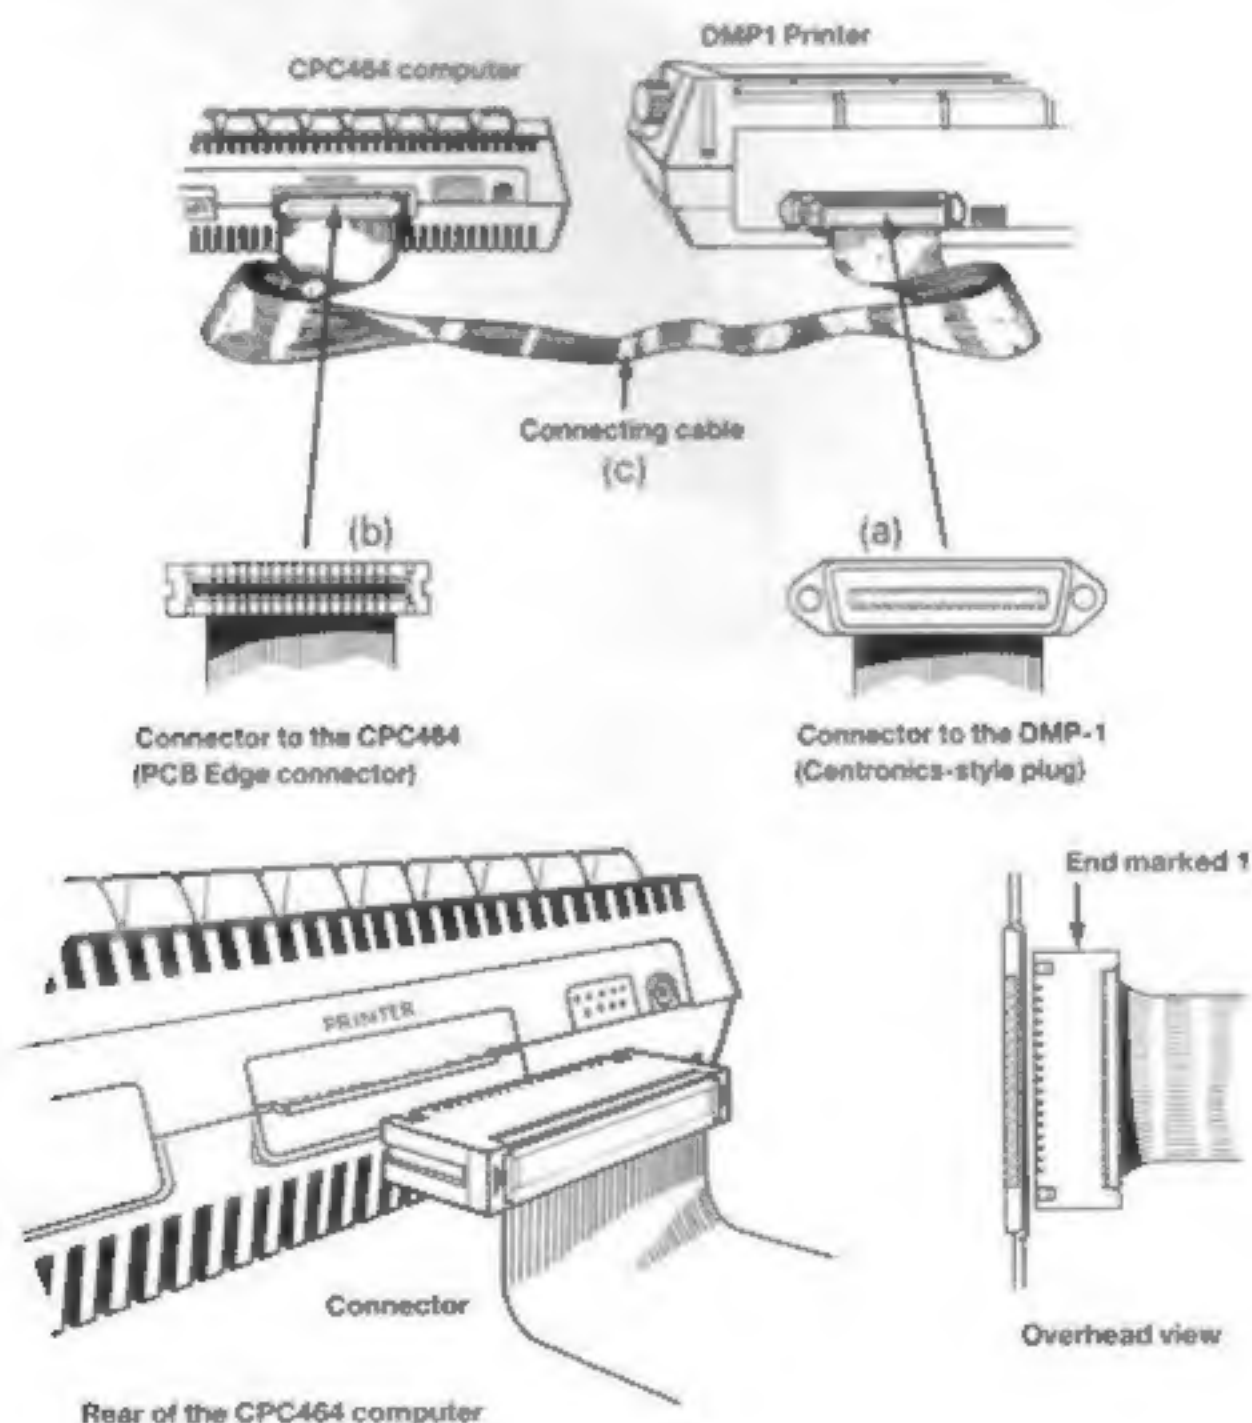

Figure 6
3. The DMP1 is supplied complete with a cable (Figure 6c) that allows direct connection to the PRINTER connector at the rear of the CPC464. Figure 6 also shows how this cable is to be fitted. Firm pressure will be required to ensure that a good connection is made.